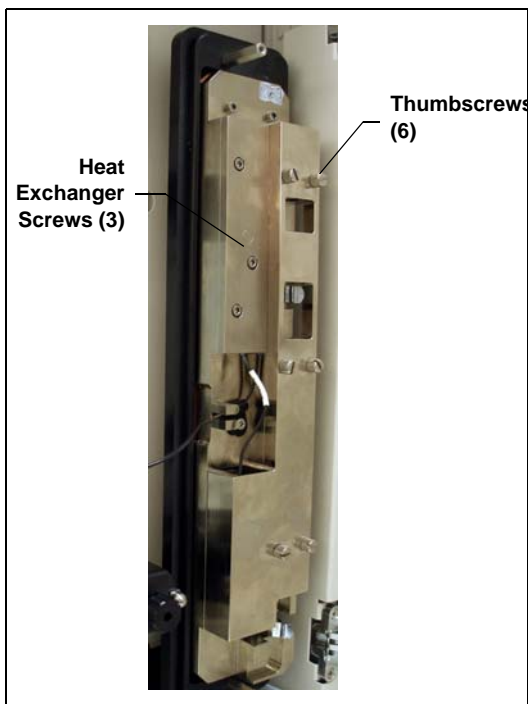

Figure 5-25. Dionex ICS-2100 Column Heater Cover Removed
5. Unscrew the six thumbscrews on the top metal plate (see Figure 5-25) and remove the plate.